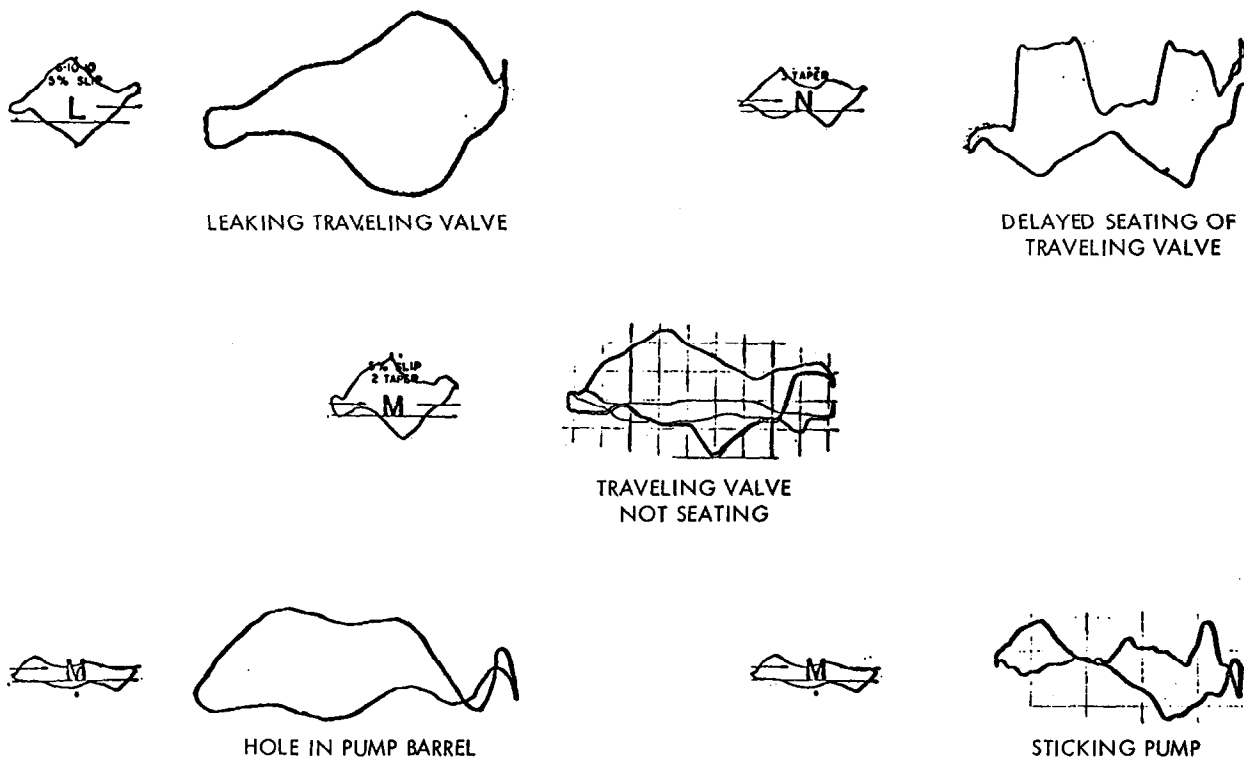

FIG. 4—ABNORMAL LOADING (UPSTROKE)
Causes of abnormal loads can be outlined as follows (See Figures 4, 5, and 6 for examples of abnormal loading.)
I. Upstroke (Fig. 4)